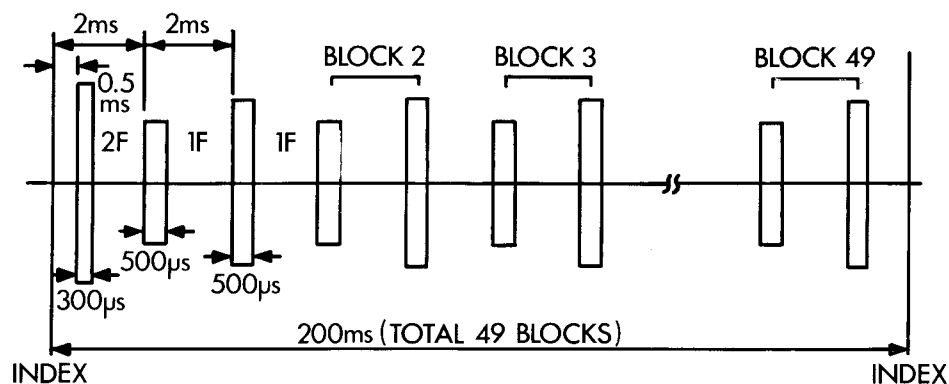

Fig.1 Waveform of T19 (Servo pattern)
1. Radial adjustment by use of Track 19 (Fig. 1).	○